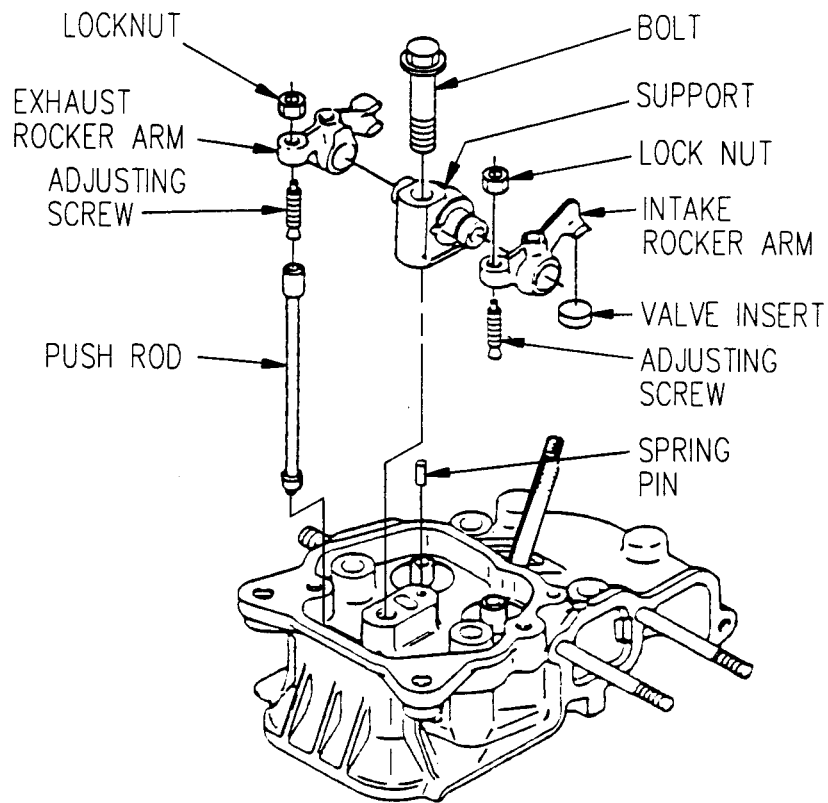

Figure 5-5. Rocker Arms and Push Rods Assembly
- (1) Shut down generator set.
- (2) Remove valve cover, refer to paragraph 4.56.a.
- (3) Remove bolt (Figure 5-5) and support with rocker arms attached.
- (4) Remove valve inserts from valve stems so they don't get knocked off and lost.
- (5) Remove intake rocker arm with locknut and adjusting screw from support.
- (6) Remove exhaust rocker arm with locknut and adjusting screw from support.
- (7) Remove push rods from cylinder head.
- (8) If necessary, remove spring pin from cylinder head.
- (1) If removed, install spring pin (Figure 5-5) in cylinder head.
- (2) Insert push rods into cylinder head.
- (3) Install exhaust rocker arm on support with adjusting screw and locknut.
- (4) Install intake rocker arm on support with adjusting screw and locknut.
- (5) Place valve inserts on valve stems.
- (6) Position support, with rocker arms attached, in cylinder head ensuring spring pin is aligned with hole in support.
- (7) Secure support in cylinder head with bolt. Torque bolt to 15 -17 lbs-ft (20-23 Nm).
- (8) Adjust valve clearance, refer to paragraph 4.12.10.
- (9) Install valve cover, refer to paragraph 4.56.c.